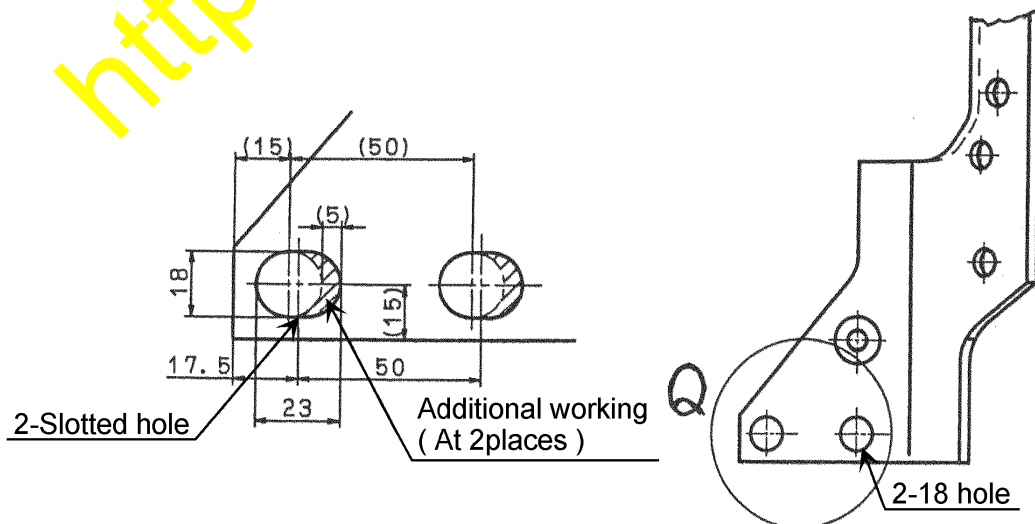

Fig. 4 ( Additional working for the bracket 561-61-62122 )
- (1) Remove the clip (1), washer (D) and nut (3) which are clamping the tube connecting between the pump and the line filter to the bracket. Abolish the removed clip (1) and the nut (3).
- (2) Inserting the seat (2) between the bracket (E) and the tube (A or B), clamp the tube using the newly prepared clip (1) and nut (3) and the removed washer (D).
- (3) If the tube (A or B) is cracked, replace the tube (A or B) together with the O-ring (C) to new parts.
- (4) If the tube is pressed forcefully while being clamped by the thickness of the additional seat (2), remove the bracket (E) and make the additional working (to change the round hole to a slotted hole) as per Fig. 4.